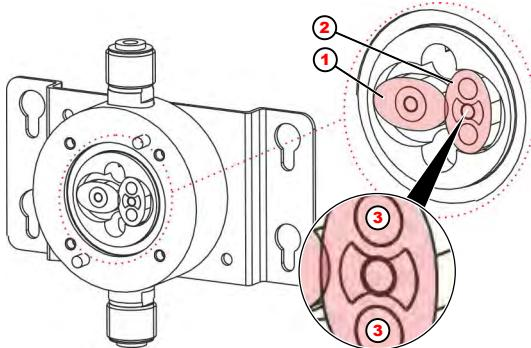

Fig. 6: Ovalradzähler
The oval gear wheels must be inserted in such a way that they are offset exactly 90° to each other (Fig. 6, pos. 1 + pos. 2).
1. ➤ Install oval gear wheels after cleaning / replacement 90° offset to each other (Fig. 6, pos. 1 + pos. 2).
The oval gear wheel with the welded magnets (Fig. 6, pos. 2) must be positioned under the sensor in the cover.